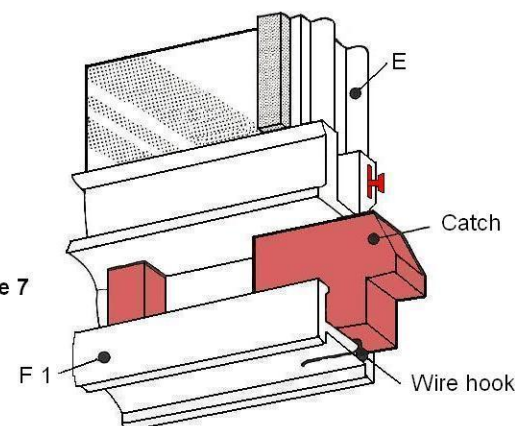

Figure 7
e) Fit a sash catch into each end of Section F1, ensuring that each wire hooks under the bottom as shown in Figure 7.